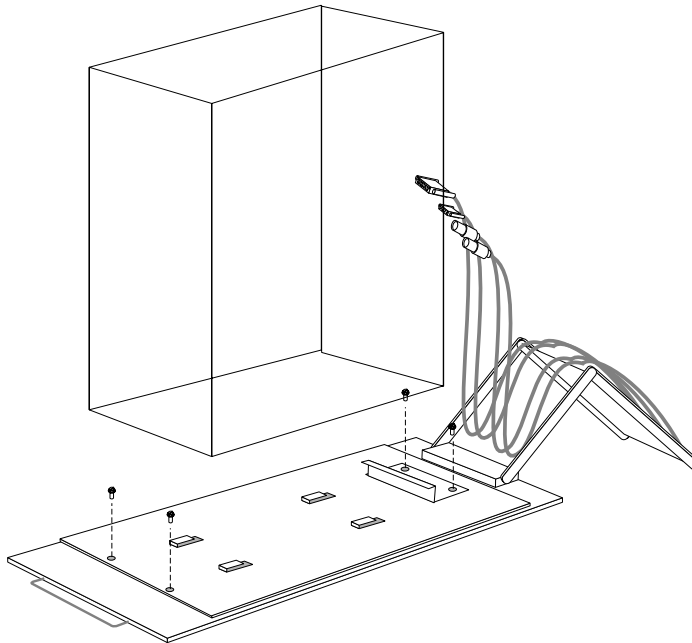

Figure 19. Installing a PS/2 Server 85/95
4. Place the mounting plate on the sliding tray with the mounting plate's tabs pointing toward the back of the sliding tray (see Figure 19).